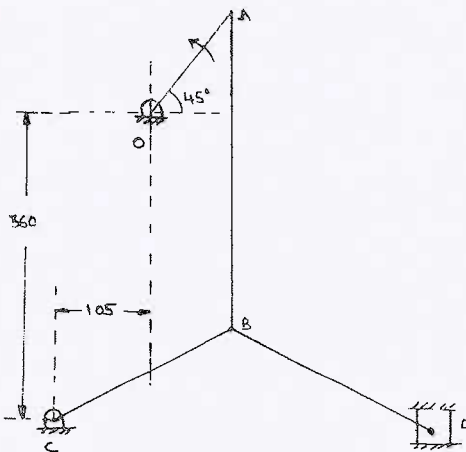

Fig. Q4
- In the toggle mechanism shown in Fig. Q4, the slider D is constrained to move in a horizontal path. The crank OA is rotating in CCW direction at a speed of 180 rpm. The dimensions of the various links are as follows: $OA=180$ mm, $CB=240$ mm, $AB=360$ mm, $BD=540$ mm. Find:(i) Velocity of slider. (ii) Angular velocity of links AB , CB , BD using instantaneous centre method. (20 Marks)